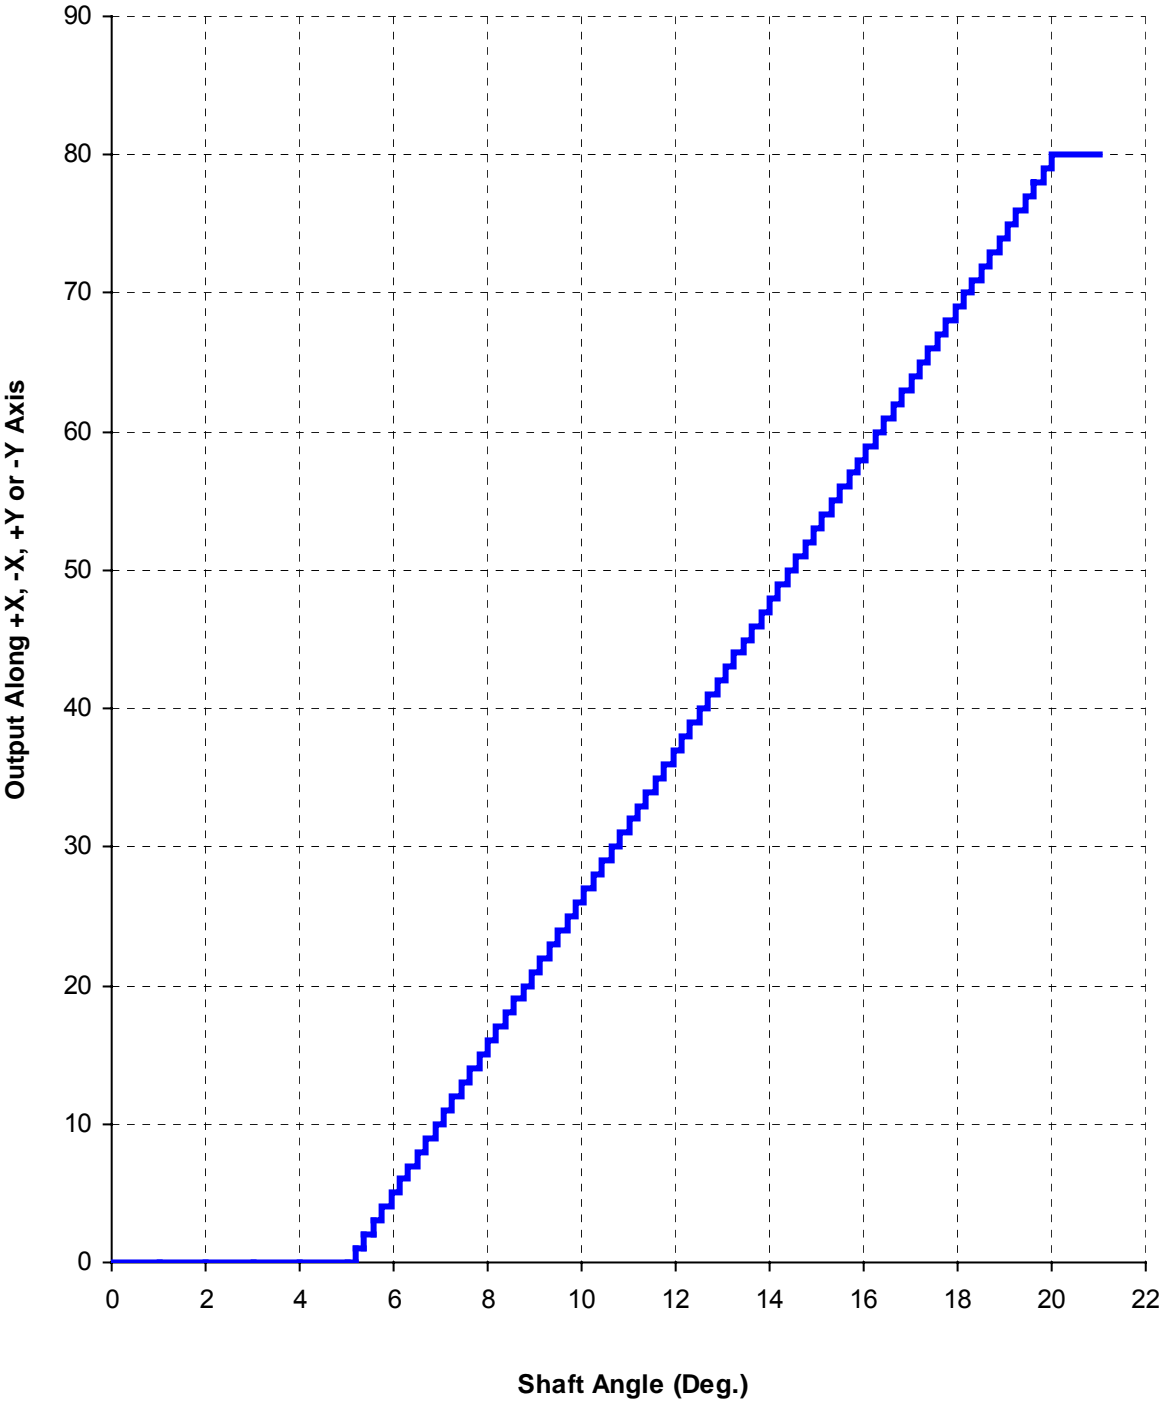

FIG. 6 – Joystick Output Along X or Y Axis vs. Shaft Angle (Typical)
- 4.3 **Low Power (Sleep) Mode:** When the joystick position for both X and Y is within a circle defined as the Sleep Zone for ten consecutive measurements the joystick goes to the Low Power mode where power is significantly lower. The Sleep Zone typically extends to a joystick shaft angle of  $5^\circ$  from the center (See Fig. 6). The last XY value output before entering the Low Power mode is (0,0). As long as the joystick remains within the circle defined by the threshold, the joystick will remain in the Low Power Mode and INTn will stay high. When the joystick is moved outside of the Sleep Zone circle, it returns to the Full Power mode, new XY measurements are available every 20 ms and power consumption increases. Low Power (Sleep Mode) current may be higher if supply voltage drops below 2.9V.